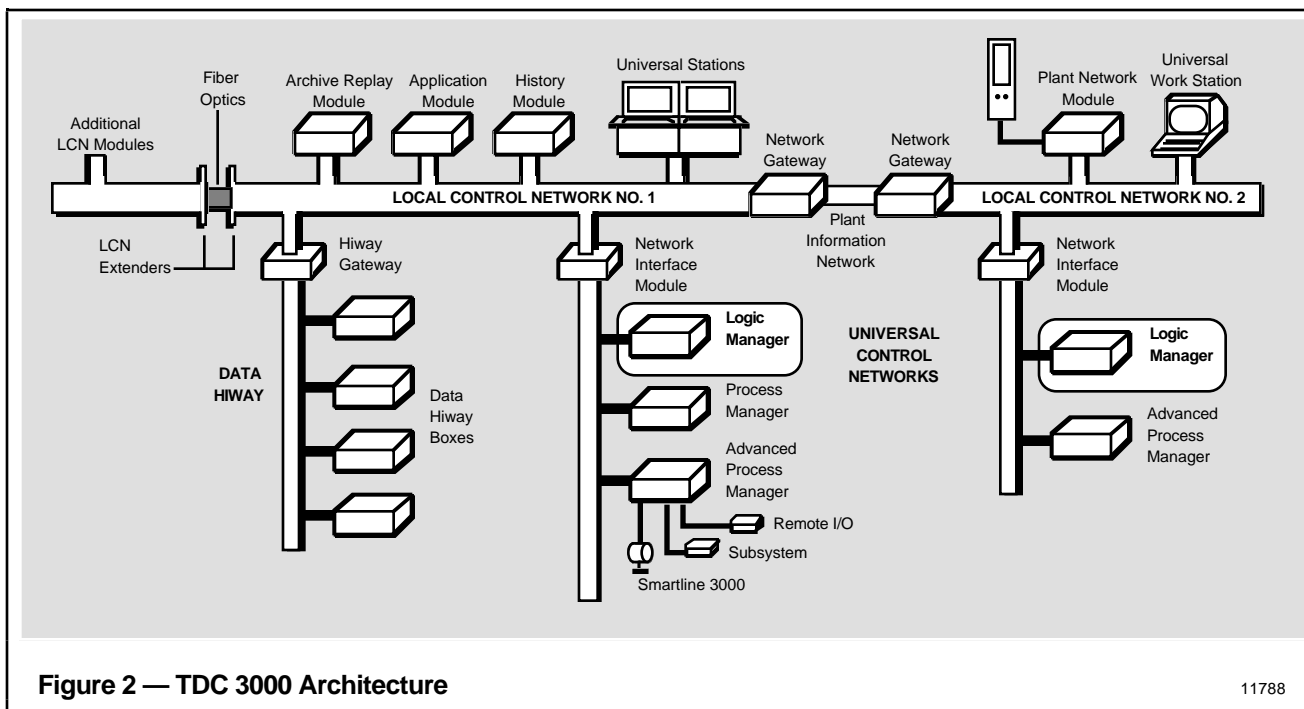

Figure 2 — TDC 3000 Architecture
Because of its position on the Universal Control Network, as shown in Figure 2, the Logic Manager shares some of the same important features as its UCN peers—the Process Manager (PM) and Advanced Process Manager (APM). This includes